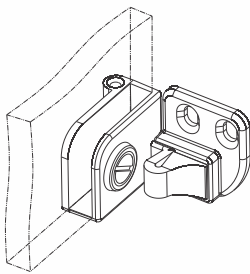

Fig.3a
3. Glass shutter should be 2.5mm less in width and in height per side accordingly from the cabinet internal dimensions to fit hinges and glass handle (Refer Fig. 3a & 3b).